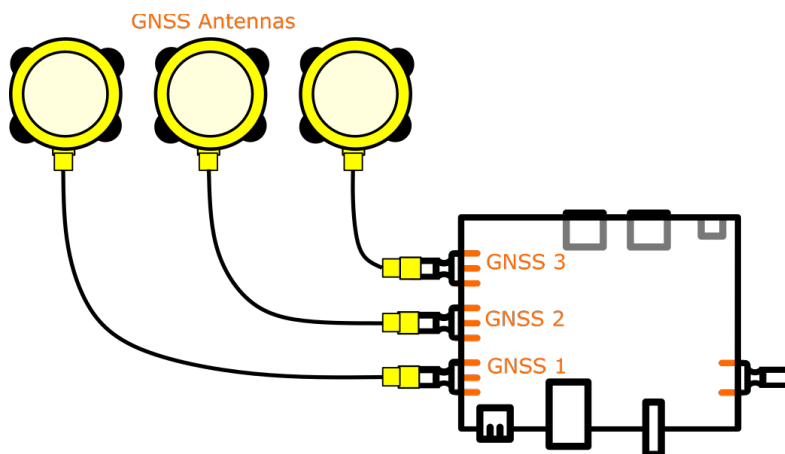

Figure 11: GNSS Antenna connections
The following section describes the different standard connectors and interfaces of the MS-RTK module. Figure 11 shows the antenna-connections with up to 3 GNSS antennas/receivers. Please connect for a One-Antenna setup to GNSS 1, for Two-Antenna setup to GNSS 1+2 and for a Three-Antenna setup to GNSS 1+2+3.
- **SMA Connectors for GNSS:** As already described in Figure 11, on the left side of the casing are the connectors for the GNSS antennas. Please take care to connect in the appropriate order (GNSS 1, GNSS 2, GNSS 3).